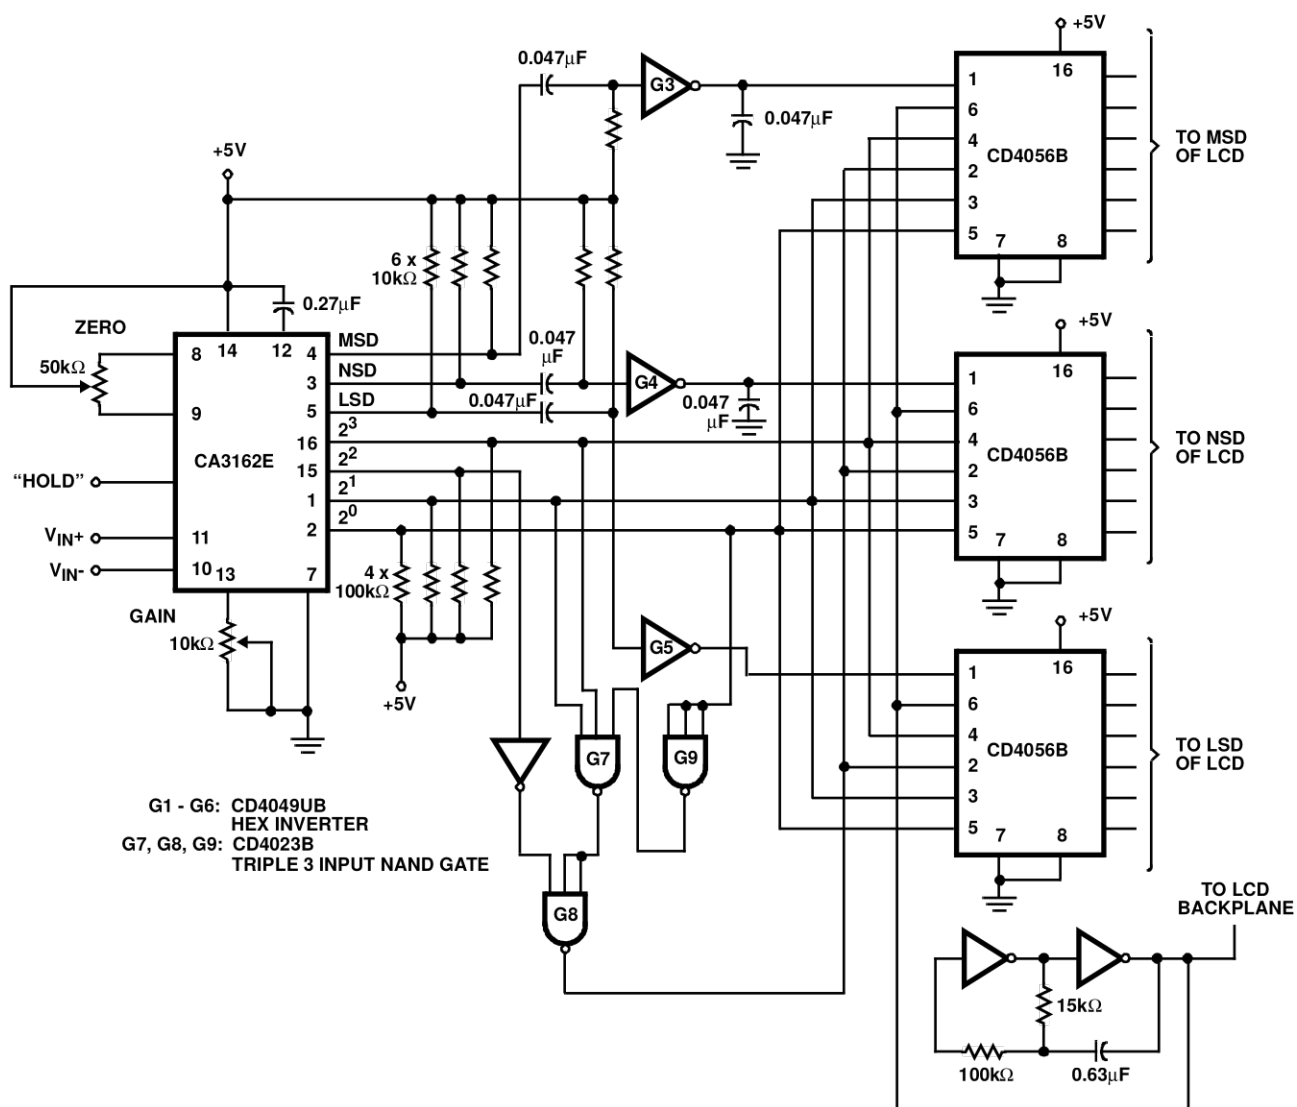

FIGURE 3. TYPICAL LCD APPLICATION
Figure 3 shows the CA3162E in a typical LCD application. LCDs may be used in favor of LED displays in applications requiring lower power dissipation, such as battery-operated equipment, or when visibility in high-ambient-light conditions is desired.
The circuit as shown in Figure 3 using G7, G8 and G9 will decode the negative sign (-) as a negative sign (-), and the positive overload indicator (E) as “H”.